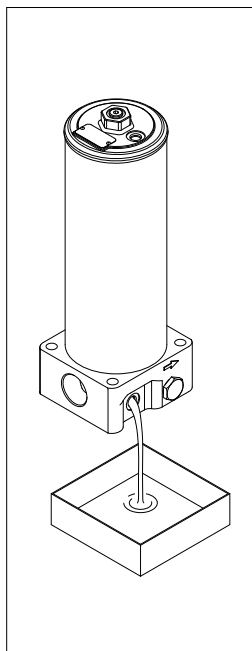

fig. 3
- (Fig. 3) Drain the operating fluid from the bottom of the head into the collection vessel